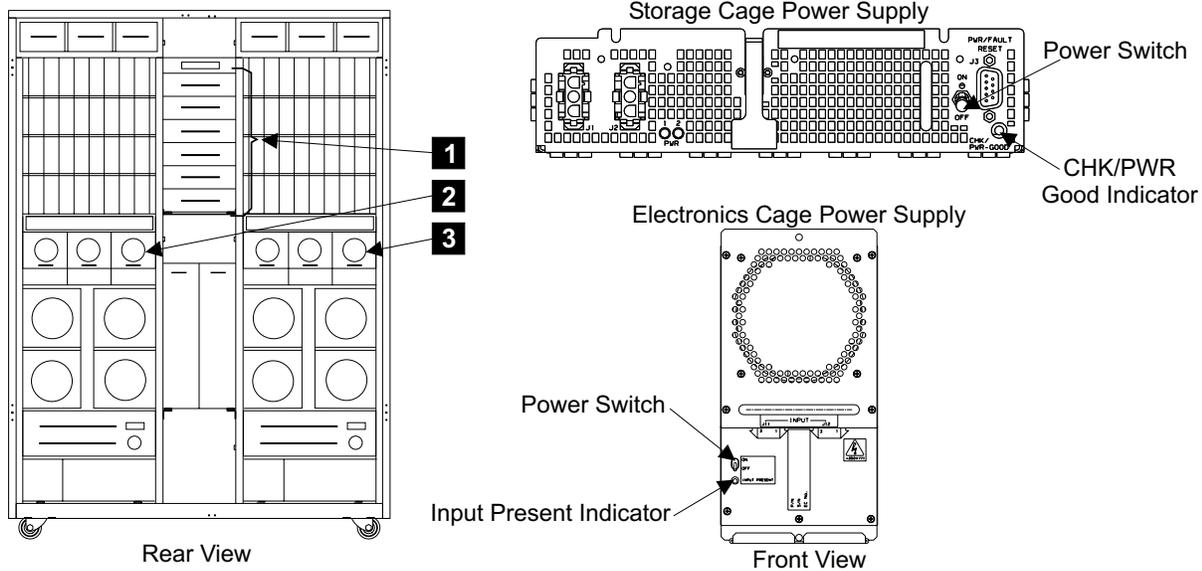

Figure 231. Electronics and Storage Cage Power Supply Switches (S007637m)
- 2. Go to the rear of the 2105 Model Exx/Fxx. Ensure that the power switches on all six electronics cage power supplies **2** [Figure 231] and **3** are set to On.
- 3. Ensure that the power switches on all of the installed storage cage power supplies **1** [Figure 231] are set to On.